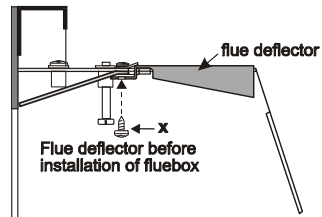
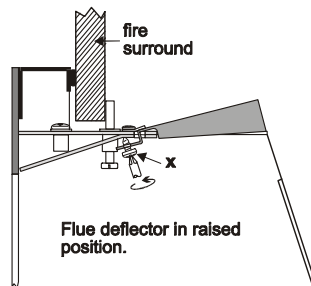

Figure 57
Figure 58
8. Screw the two self-tapping screws provided into the two extreme lugs of the flue deflector and screw them in until the deflector is raised to the required position (see **Figure 57** and **Figure 58**). **DO NOT** over tighten.
5. Screw the two self-tapping screws provided into the two extreme lugs of the flue deflector and screw them in until the deflector is raised to the required position (see **Figure 57** and **Figure 58**). **DO NOT** over tighten.